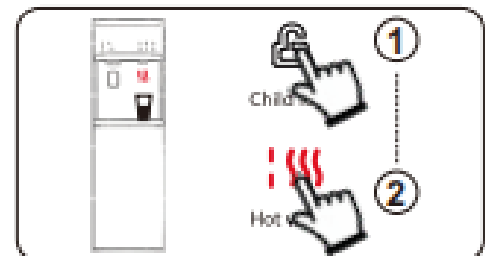

Fig 5
2. Gently touch the child lock button and backlight is on, then touch the wave-shaped button, the hot water flows out from the outlet; Touch the button again to turn off the hot water flowing (**Fig 5**).